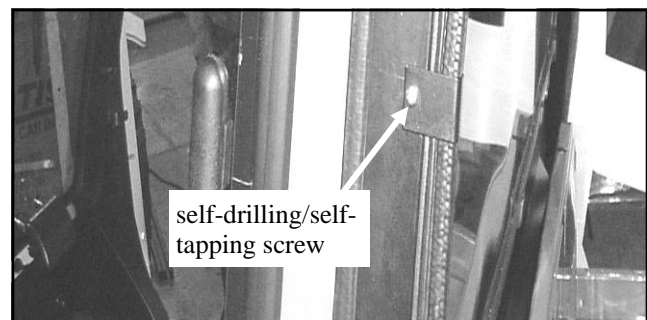

Fig. 18.3
18.3 Position one of the two (2) metal right angle window clips on the middle vertical edge of the hard rear window. Make sure the clip is compressing the bulb rubber enough for a good seal from top to bottom. Using a drill, secure the clip to the outside surface of the side frame tubing with one of the #10 x 1/2" long self-drilling/self-tapping screws provided. See figure 18.3. Repeat for opposite side.